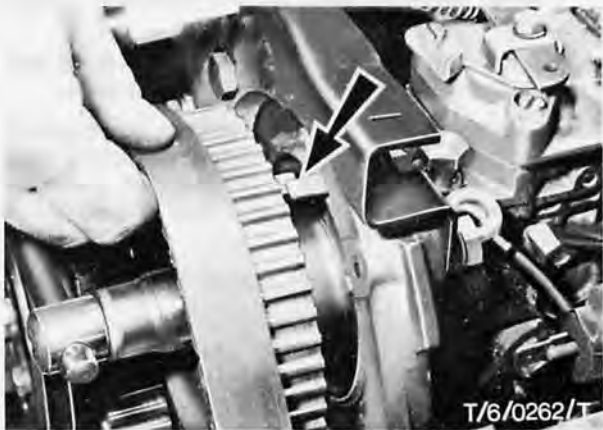

Fig. 14. Timing marks
- 36. Ensure the timing peg (Special Tool No. 21 016) is located in the camshaft/engine front cover position and the crankshaft timing marks are aligned, Fig. 14.